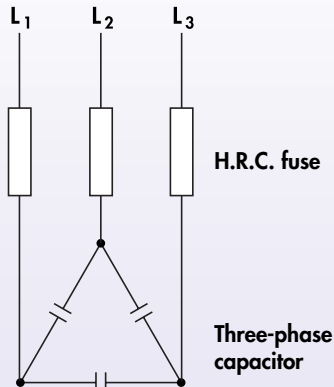

Fig. 1
### ■ Delta wiring (fig. 1)
- equipped with **three-phase connection** capacitors (fig. 1)